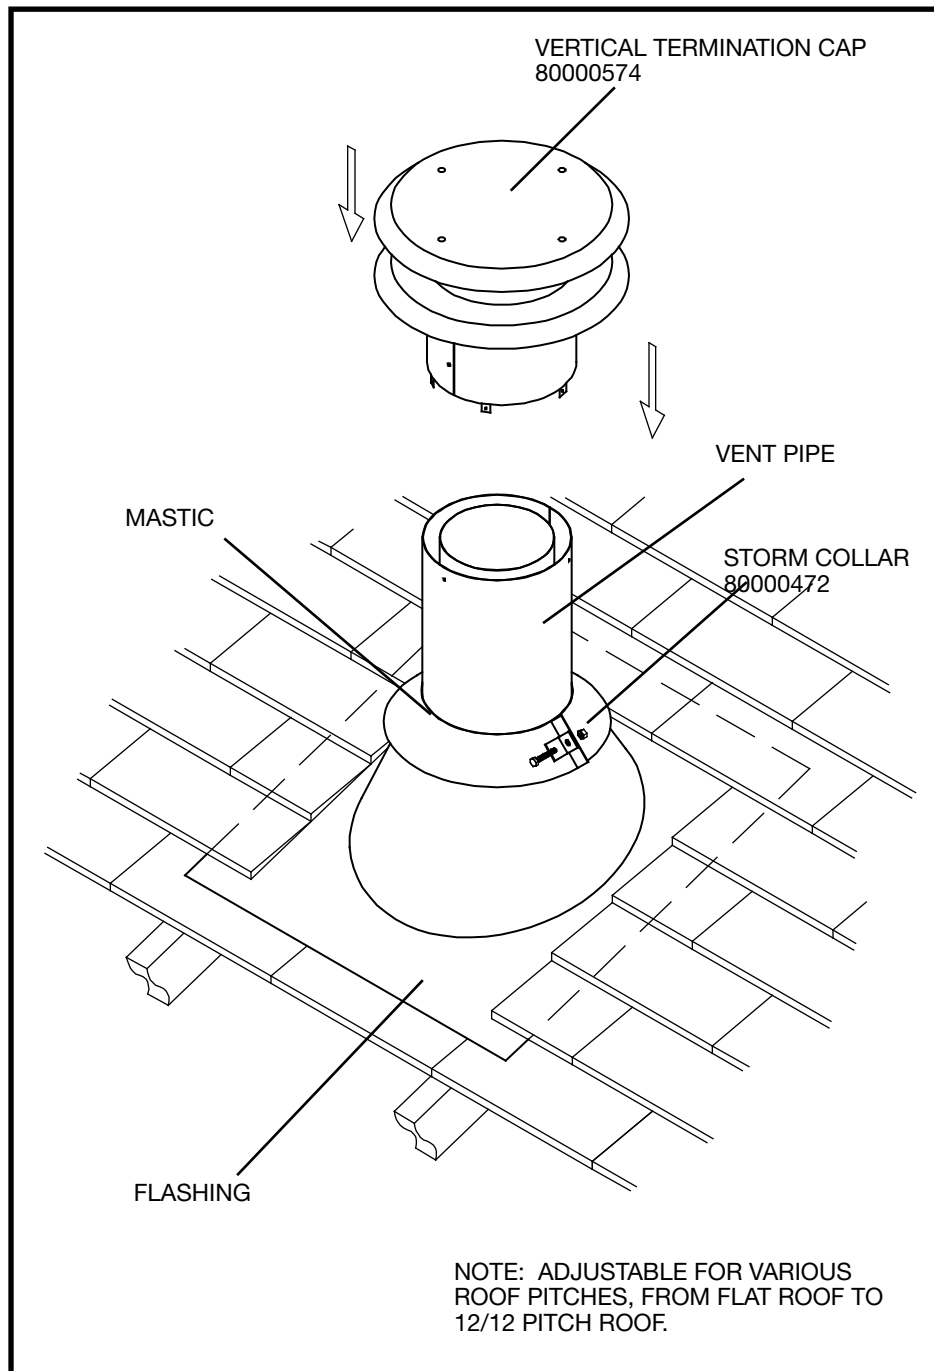

Figure 35: Roof vent terminal.
1. Place the roof flashing over top of the vent pipe and seal it to the roof using the methods and materials appropriate for the type of roof on the building. Shingle roof example shown (Figure 35).